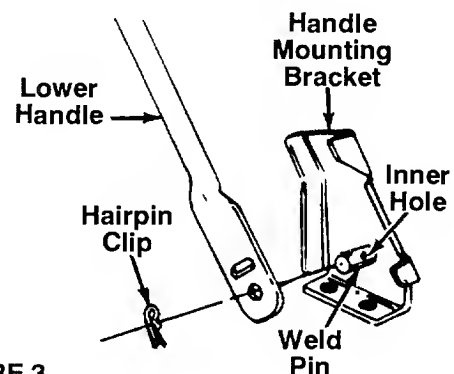

FIGURE 3.
- Using a pair of pliers, remove hairpin clips from the outer hole in weld pins on handle mounting brackets. Place hairpin clips in the **inner** hole. See figure 3.